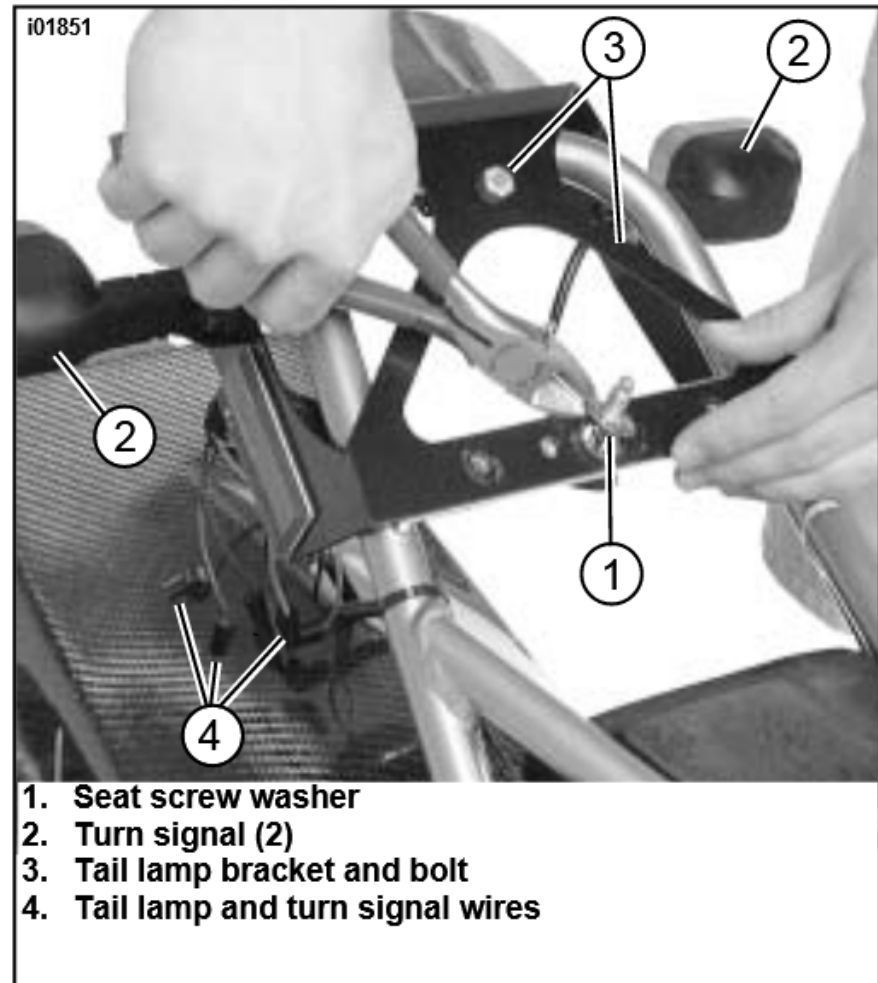

Figure 1. Removing Old Bracket
- See Figure 1. Unplug rear turn signal and tail lamp wiring (4).
- Cut washer holding seat screw (1). Discard washer and remove screw.
- Remove bolt (3) holding tail lamp bracket to frame.